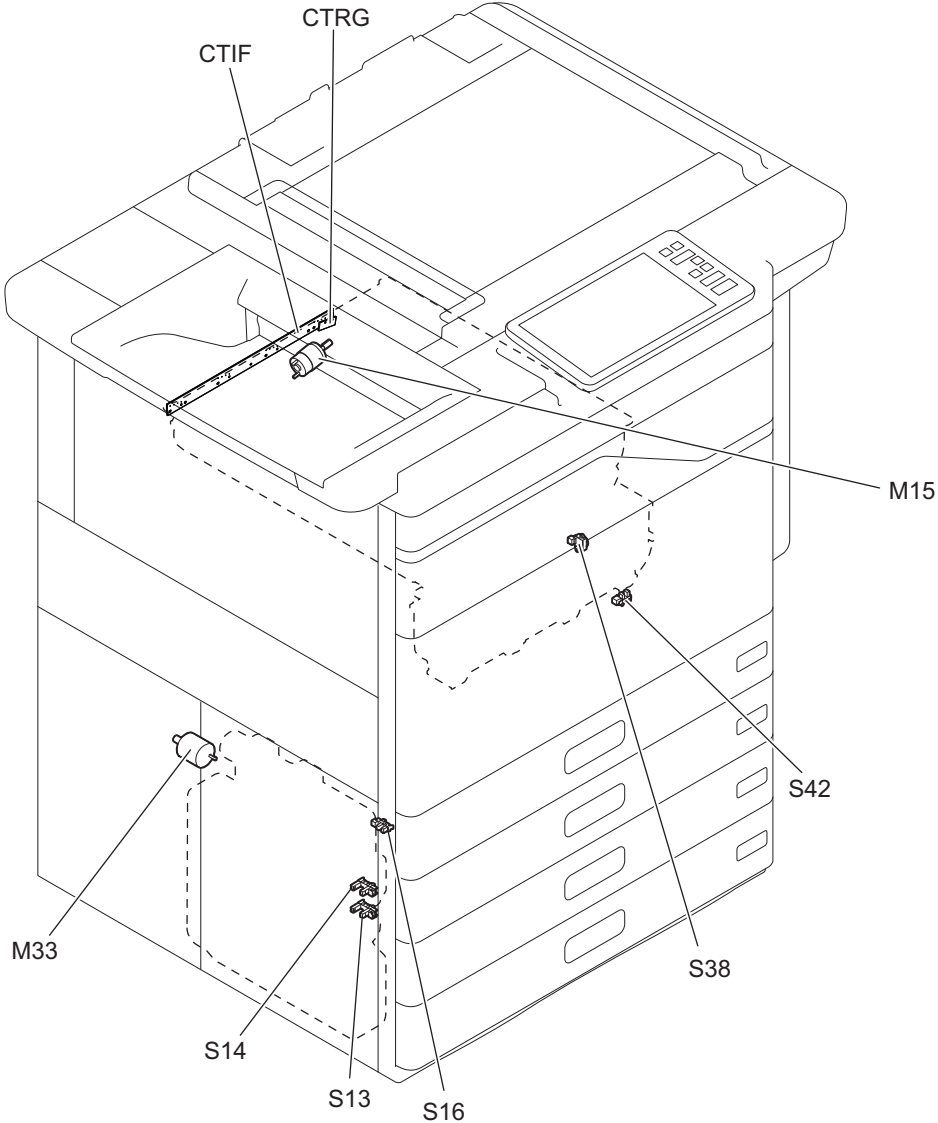

Fig. 3-19
| M15 | Toner motor (K) | Supplies the toner from the toner cartridge to the sub-hopper. | [I] Toner cartridge and waste toner box Fig. 3-19 | 45-79 |
| M33 | Waste toner transport motor | Transports waste toner. | [I] Toner cartridge and waste toner box | Fig. 3-19 | 65-37 |